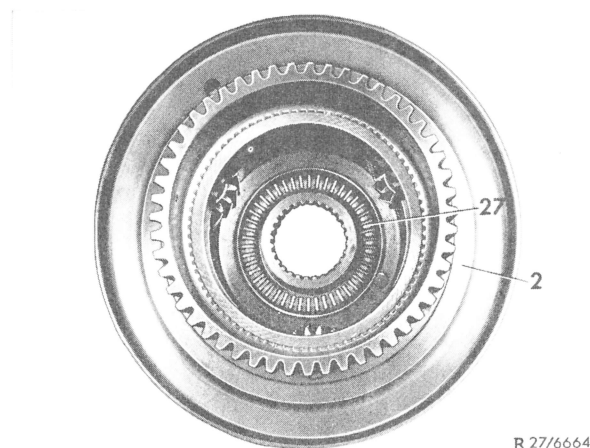

Fig. 22
36 Glue axial bearing (27) with some grease to planetary carrier (2) (Fig. 22).
43 Adjust play to 0.2–0.3 mm by adding compensating washers under axial bearing (27) (Fig. 22).